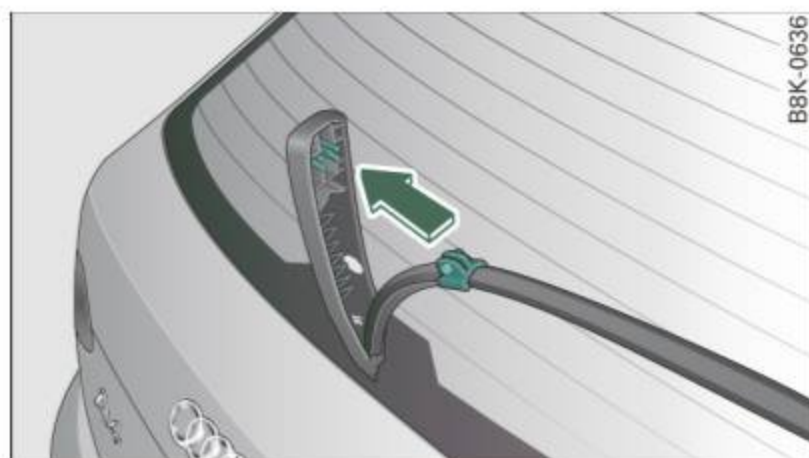

Fig. 64 Rear wiper:
- Press the wiper blade holder in the arrow direction ⇒ fig. 64 into the mount.